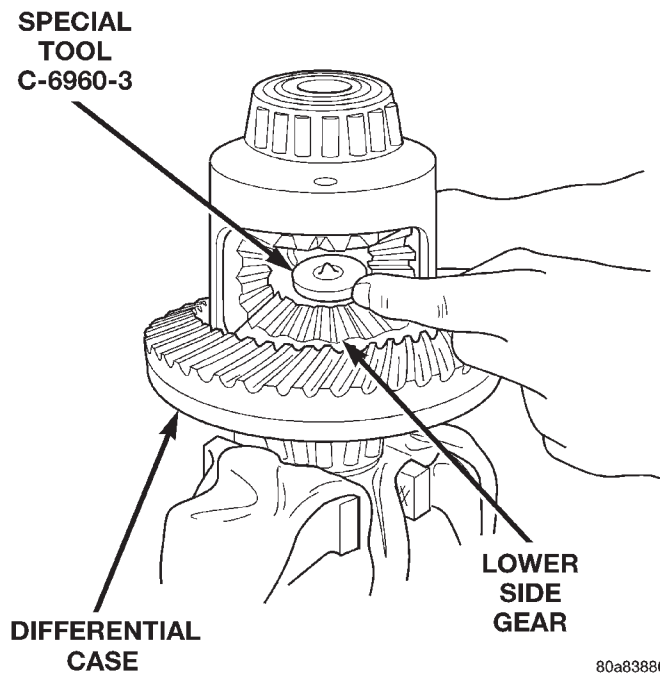

Fig. 55 Step Plate Tool Installation
(6) Install and lubricate Step Plate C-6960-3 (Fig. 55).
(7) Assemble Threaded Adapter C-6960-1 into top side gear. Thread Forcing Screw C-6960-4 into adapter until it becomes centered in adapter plate.